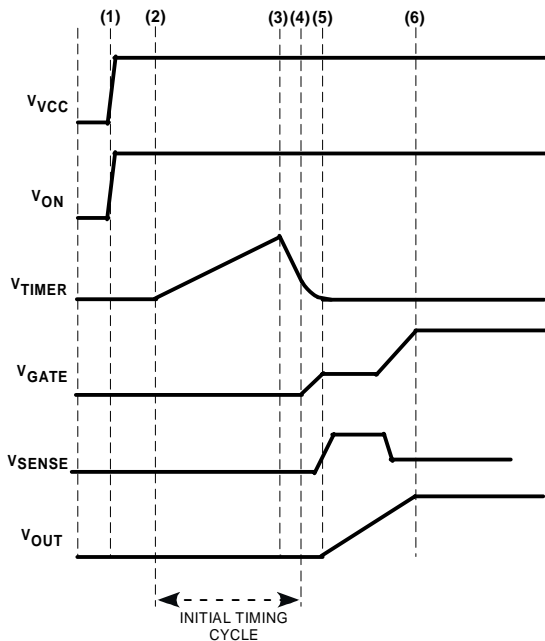
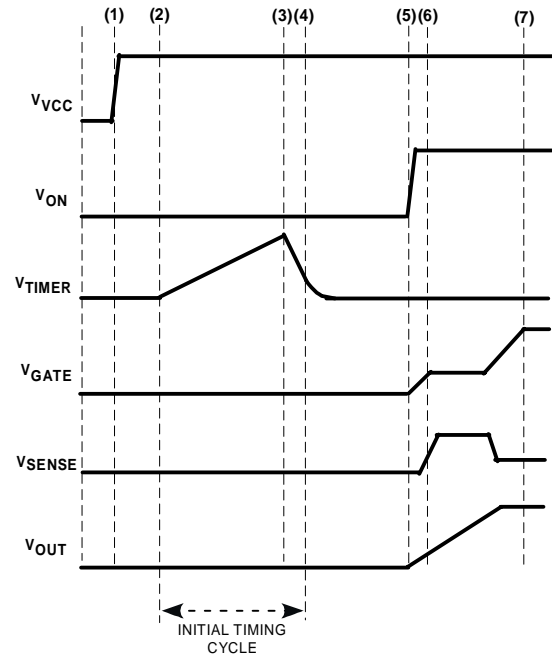

Figure 4. Start-up (ON asserts as power is applied)
Figure 5. Start-up (ON asserts after power is applied)
When VCC is first connected to the backplane supply, there is an internal supply (time-point (1) in Figure 4) in the ADM1177 which needs to charge up. A very short time later (significantly less than 1 ms) the internal supply will be fully up and, since the undervoltage lockout voltage has been exceeded at VCC, the device will come out of reset. During this first short reset period the GATE pin is held down with a 25 mA pulldown current, and the TIMER pin is pulled down with a 100  $\mu$ A current sink.
When the initial timing cycle terminates, the device is ready to start a hotswap operation (assuming ON pin is asserted). In the example shown in Figure 4, the ON pin was asserted at the same time as VCC was applied, so the hotswap operation starts immediately after time-point (4). At this point the FET gate is charged up with a 12  $\mu\text{A}$  current source. At timepoint (5) the threshold voltage of the FET is reached and the load current begins to flow. The FET is controlled to keep the sense voltage at 100 mV (this corresponds to a maximum load current level defined by the value of  $R_{SENSE}$ ). At timepoint (6)  $V_{GATE}$  and  $V_{OUT}$  have reached their full potential and the load current has settled to its nominal level. Figure 5 illustrates the situation where the ON pin is asserted after  $V_{VCC}$  is applied.